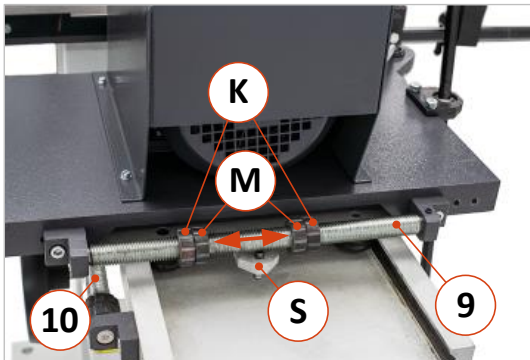

Figure 19: Drilling length stops
1. After the pre-settings (see ⇒ 12.2) a hole is drilled into the workpiece to the set depth at the start and end position (see distance “D”) of the two drill length stops (M) shown in ⇒ Figure 19.
3. Then drill out the mortise by moving back and forth several times against the two drill length stops (M) in the transverse direction ⇄ (see ⇒ Figure 19). Repeat the process until all intermediate holes form a clean and continuous mortise.